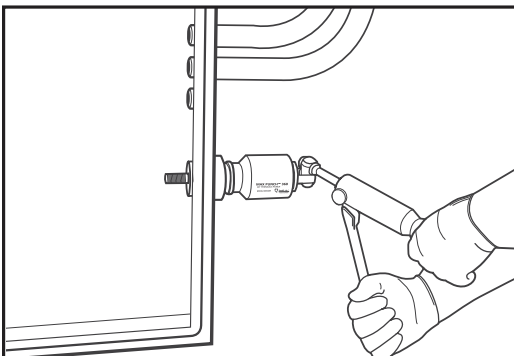

Fig. 7
10. Begin operating the pump handle, stop compressing when knockout is complete (Fig. 7).